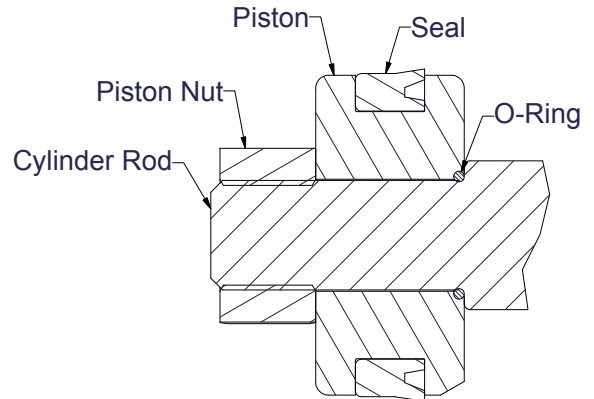

Figure 6-7, Piston Seal
2. Note the direction of the seal on the piston. Improper installation will result in poor performance. The cupped side or O-Ring side of the seal should be facing the gland cap. (Figure 6-7)